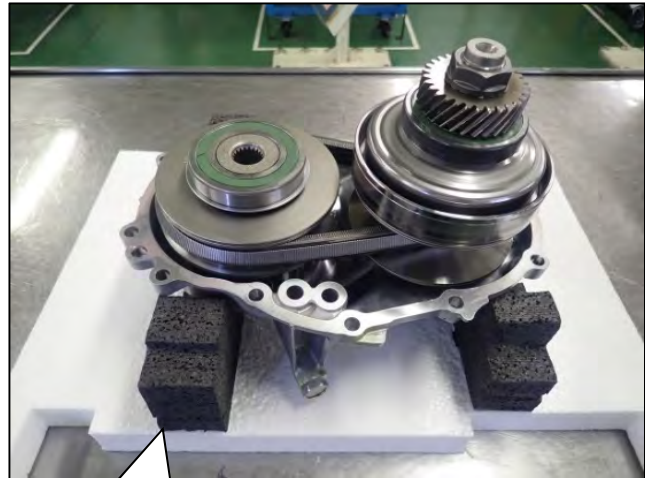

Figure 147
- The sub-assembly must be level and oriented as shown in Figure 147 for proper seating of the CVT case later in this procedure.